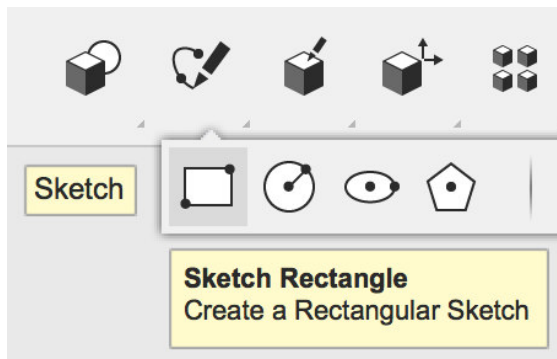

Figure 4-12 Choose the Sketch Rectangle option
2. Choose Sketch Rectangle (Figure 4-12).